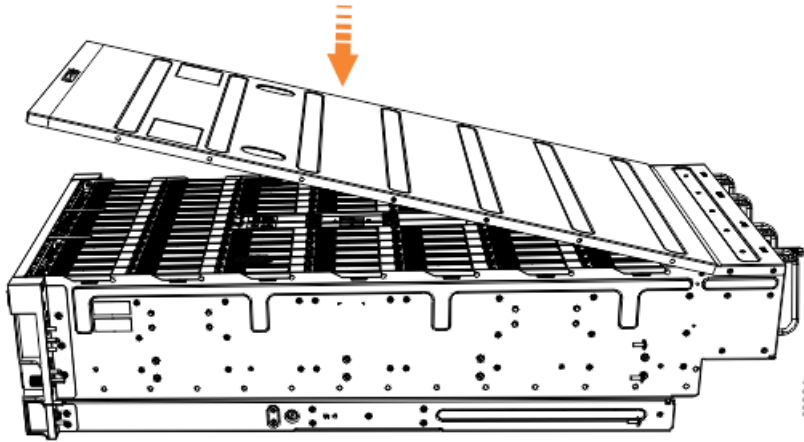

Figure 35. Aligning the top cover
1. Carefully lower the cover and ensure that it is aligned correctly with the back of the enclosure, as shown in Figure 35 on page 54.